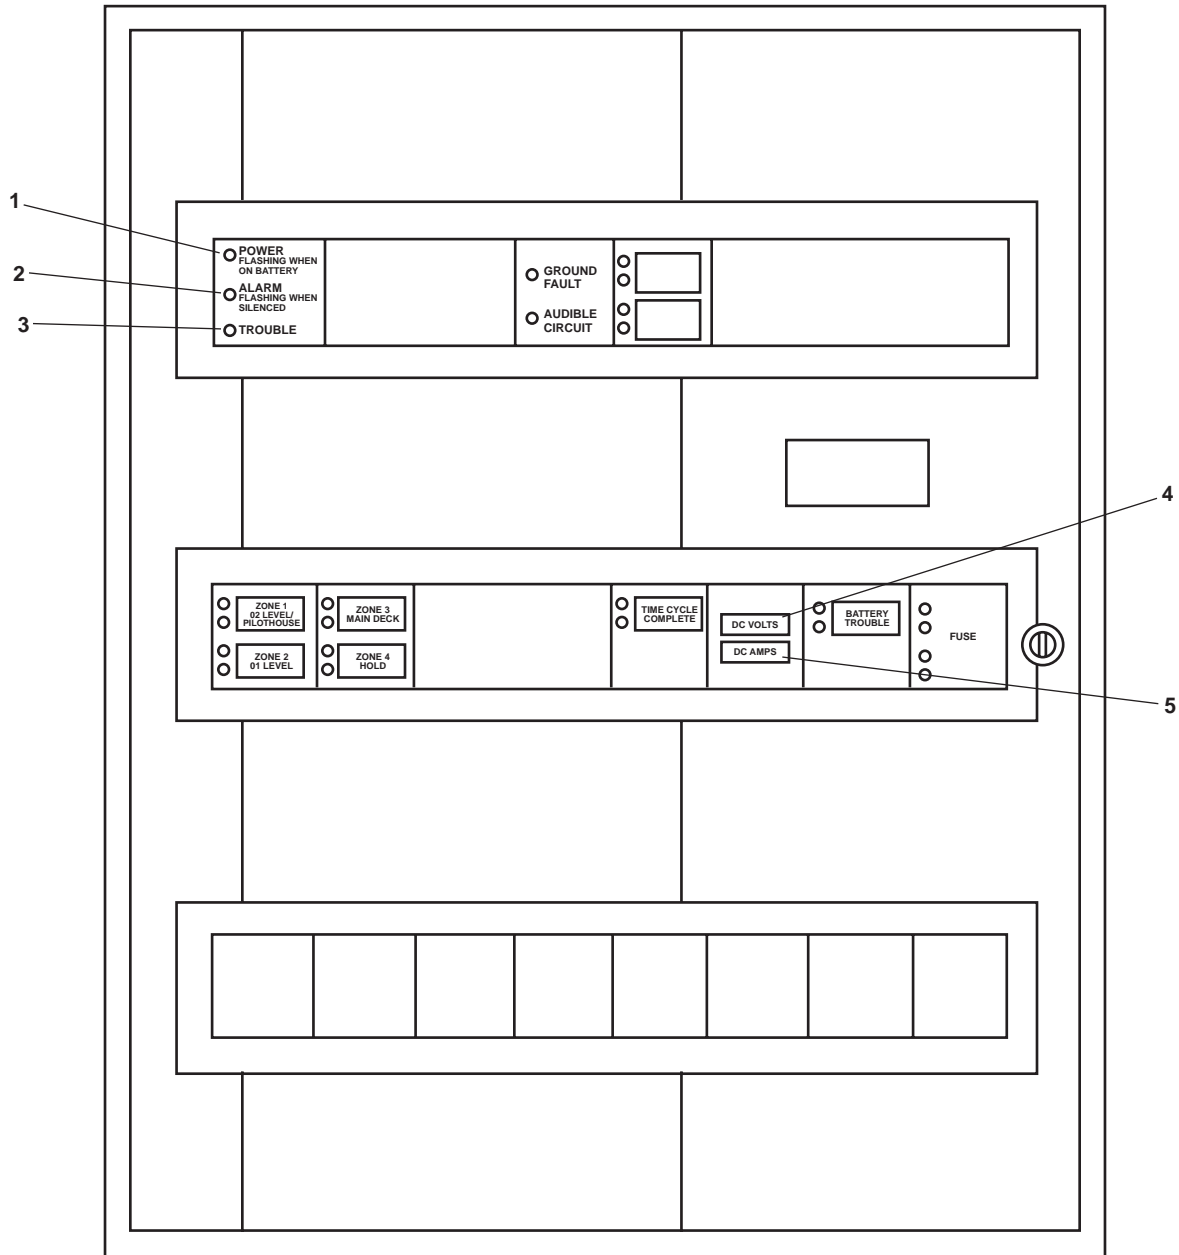
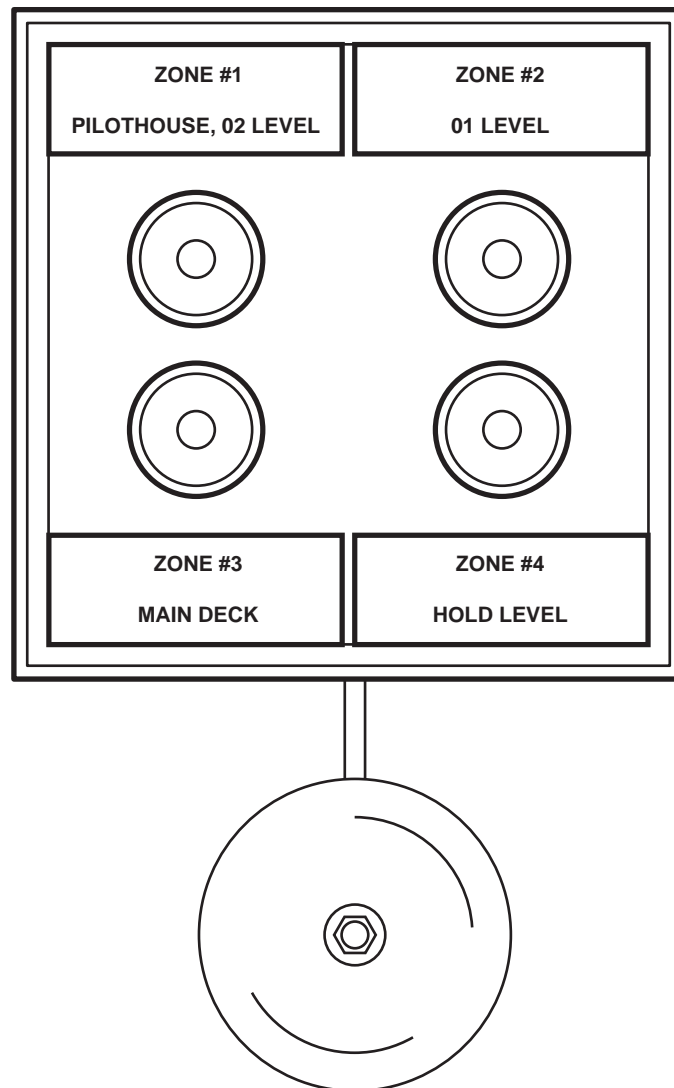

Figure 2. Fire and Smoke Detection Panel
Figure 3. Fire Alarm System Remote Indicating Panel (Pilothouse)
The fire and smoke detection panel is located in the EOS (figure 2). The fire alarm system remote indicating panel is located in the pilothouse (figure 3). In the event of an alarm condition, the bells in the EOS and pilothouse will continue to ring and the beacon in the radio room will flash until the circuitry is reset at the fire and smoke detection panel in the EOS.
The fire and smoke detection panel also alerts the crew to any fire detector faults in the system. The fire and smoke detection panel contains other indicators that illuminate during specific conditions. The POWER indicator (figure 2, item 1) illuminates to indicate that normal power is being supplied to the fire and smoke detection panel. It flashes when the fire and smoke detection panel is on battery power. The ALARM indicator (figure 2, item 2) illuminates when the alarm is silenced. It flashes when an alarm condition exists but the alarm is silenced. It will continue to flash as long as the audible alarm is silenced and an alarm condition is detected. The TROUBLE indicator (figure 2, item 3) illuminates when the system detects a fault in the backup battery system. The fire alarm system has its own backup battery in the fire and smoke detection panel. The DC VOLTS meter (figure 2, item 4) measures the dc voltage available to the fire and smoke detection system, and the DC AMPS meter (figure 2, item 5) indicates the dc current used by the alarm system. The voltage and current indications are necessary in determining the status of the fire alarm system. If the TROUBLE indicator illuminates and normal power is lost, the reliability of the fire alarm system may be suspect.